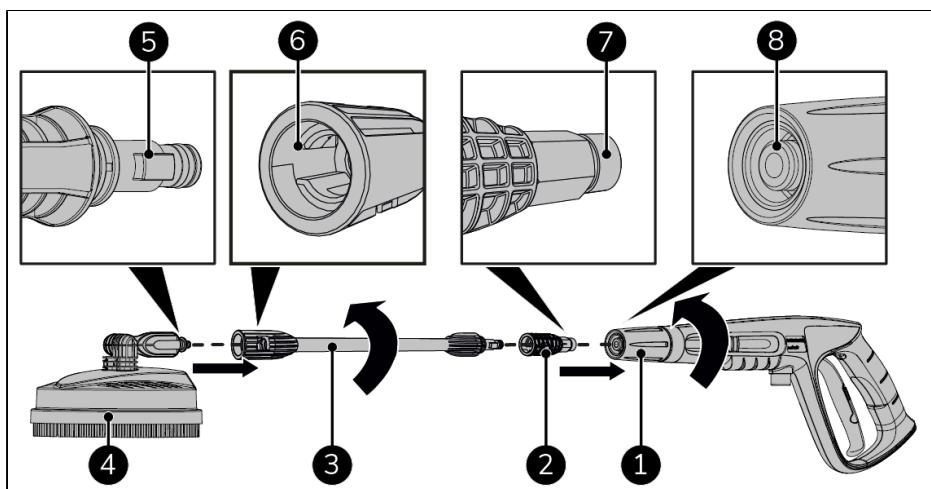

Figure 33.
1. Align the ridge of the floor cleaner (Figure 33, pos. 5) with the groove in the floor cleaner lance (Figure 33, pos. 6).
2. Insert the floor cleaner (Figure 33, pos. 4) into the floor cleaner lance (Figure 33, pos. 3).
4. Insert the adapter (Figure 33, pos. 2) into the floor cleaner lance (Figure 33, pos. 3).
5. Screw the floor cleaner lance (Figure 33, pos. 7) on the jet gun (Figure 33, pos. 8).